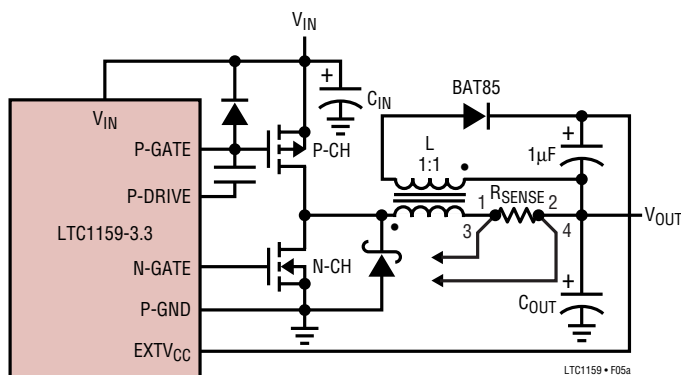
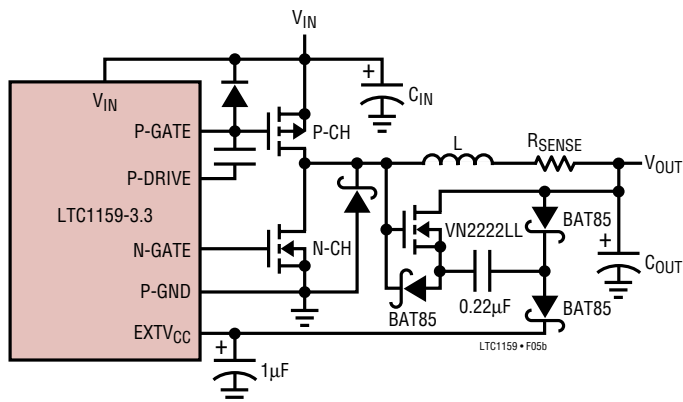

Figure 5a. Inductive Boost Circuit for EXTVCC
Figure 5b. Capacitive Charge Pump for EXTVCC
3. EXTVCC Connected to an Output-Derived Boost Network. For 3.3V and other low voltage regulators, efficiency gains can still be realized by connecting EXTVCC to an output-derived voltage which has been boosted to greater than 4.5V. This can be done either with the inductive boost winding shown in Figure 5a or the capacitive charge pump shown in Figure 5b. The charge pump has the advantage of simple magnetics and generally provides the highest efficiency at the expense of a slightly higher parts count.